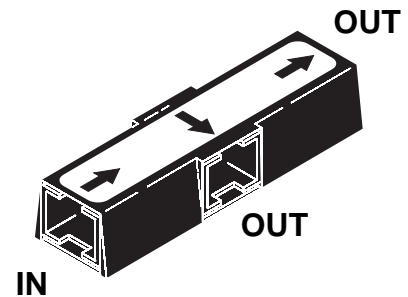

Figure 2: RJ-45 T-connector
Whether you use DMX control or stand-alone operation, you need to connect heads so that luminaires can draw power from transformers. See Figure 2 on page 10.
Connect only Alien LED Downlight components to the Alien LED Downlight system, and connect them only as shown in Figure 2 on page 10. Use only the cables supplied with the system, and check that cables are in perfect condition before use.
**Important!** Before connecting two standard luminaires to a transformer, look carefully at the RJ-45 T-connector used to branch the cable from the transformer. See Figure 2. The RJ-45 sockets that must be used for input and output are clearly marked with arrows. Observe these markings carefully, or you will damage the circuits in the T-connector.
See Figure 2. If you connect two standard luminaires using a T-connector, use the connector with the inward-pointing arrow for input from the transformer and use the two outward-pointing arrows for output to the luminaires.
Before planning the data link, study Figure 2 on page 10 and the guidelines below. If you are unsure about any aspect of installation, contact your Martin supplier for assistance.
**Read “Planning the data link” on page 15 before starting work and refer to Figure 2 on page 10 while connecting the data link.**